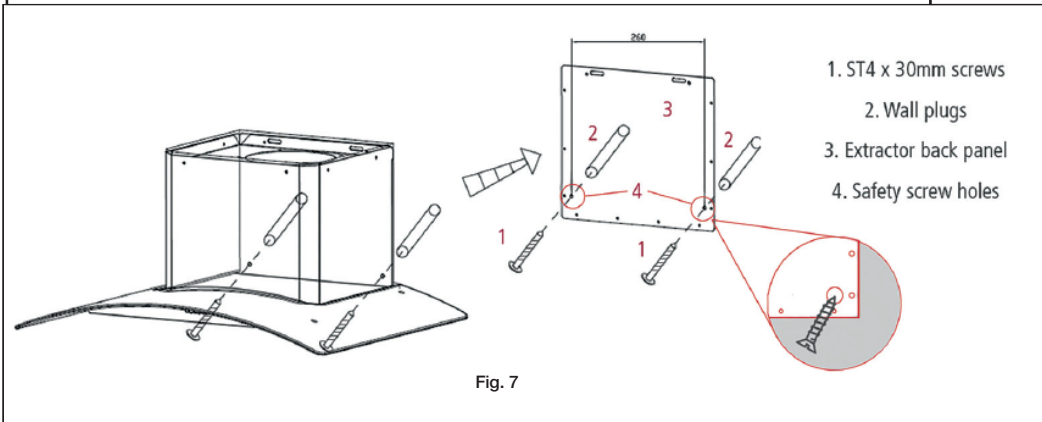

Fig. 7
- After hanging the hood on the bracket, remove the filters, mark 2 holes inside the hood for safety screws. After marking, remove the hood, drill two holes and insert 2 wall plugs and finally fix the safety screws with 2 screws (ST4x30mm) (Fig. 7)